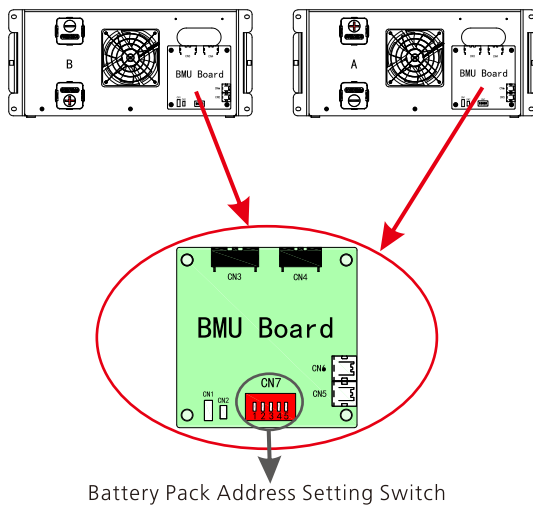

Figure-16 Diagram of battery pack and BMU board
3) The address of the battery box is set according to the dial switch (CN7) on the BMU board, as shown in Figure-16, the dial switch is set according to the binary address, from 1 to 5 switch represents high to low, for example: only open the first switch, close 2 to 5 switch, the set address is 16.